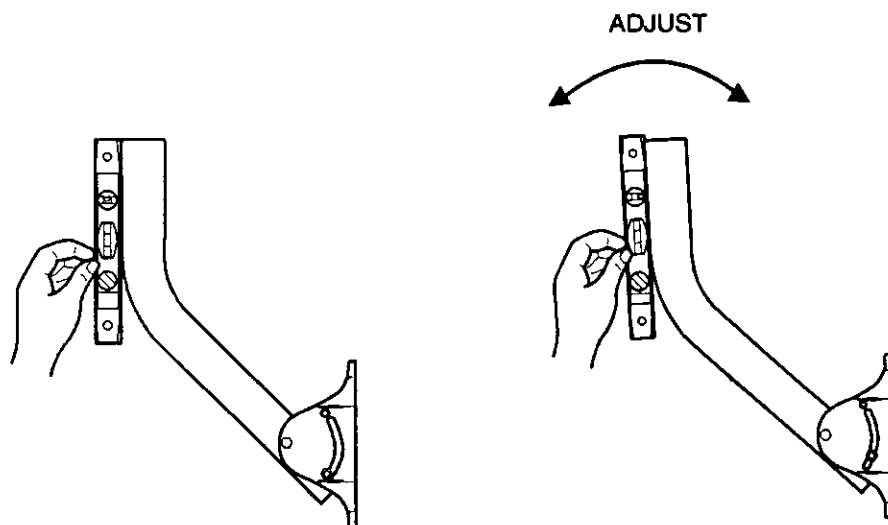

Figure 24, Vertical Plumbing with Bubble Level
2. Place the level on the mast as shown in figure 24.